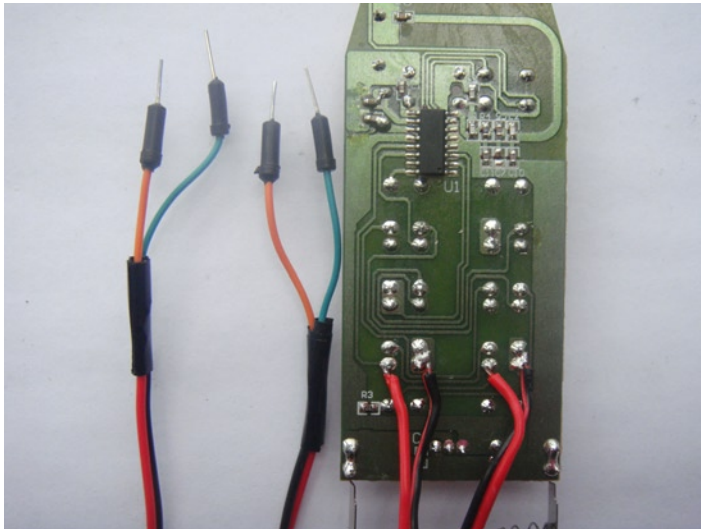

Figure 10-10. *The completed wiring for the remote*
2. It won't really matter what side is ground or positive. After all, you are just closing a circuit. I have used these terms to make it easier to understand. I like to solder breadboard pins on each of the wire ends to make it easy to connect to the breadboard. You can see my finished job in Figure 10-10.